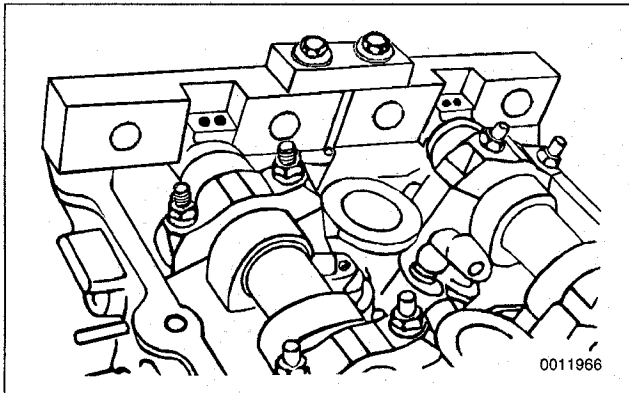

Fig. 12. BMW special tool no. 11 3 240 installed on rear of camshafts to hold them at TDC. (M44 engine shown. Other engines are similar.)
27. Lock camshafts at TDC by mounting BMW special tool no. 11 3 240 over square ends of camshafts. See Fig. 12.